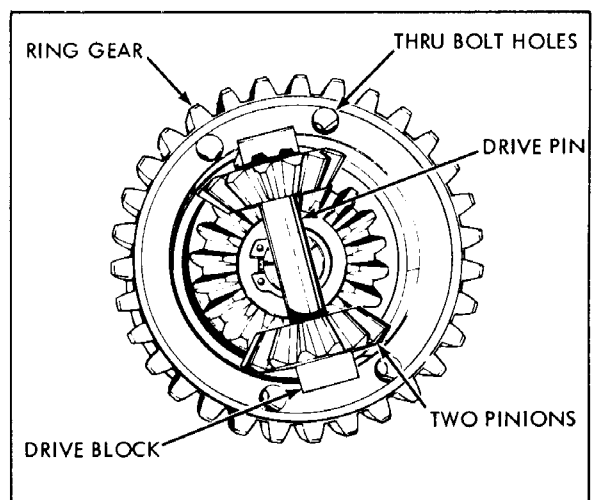

Figure 4-4
1. Remove the four hex head bolts and the upper axle and differential carrier. Remove the drive blocks, pinions, drive pin and thrust spacer if used, by lifting out of the ring gear. Tap the ring gear lightly with a mallet to loosen from the differential carrier. (Figure 4-4)